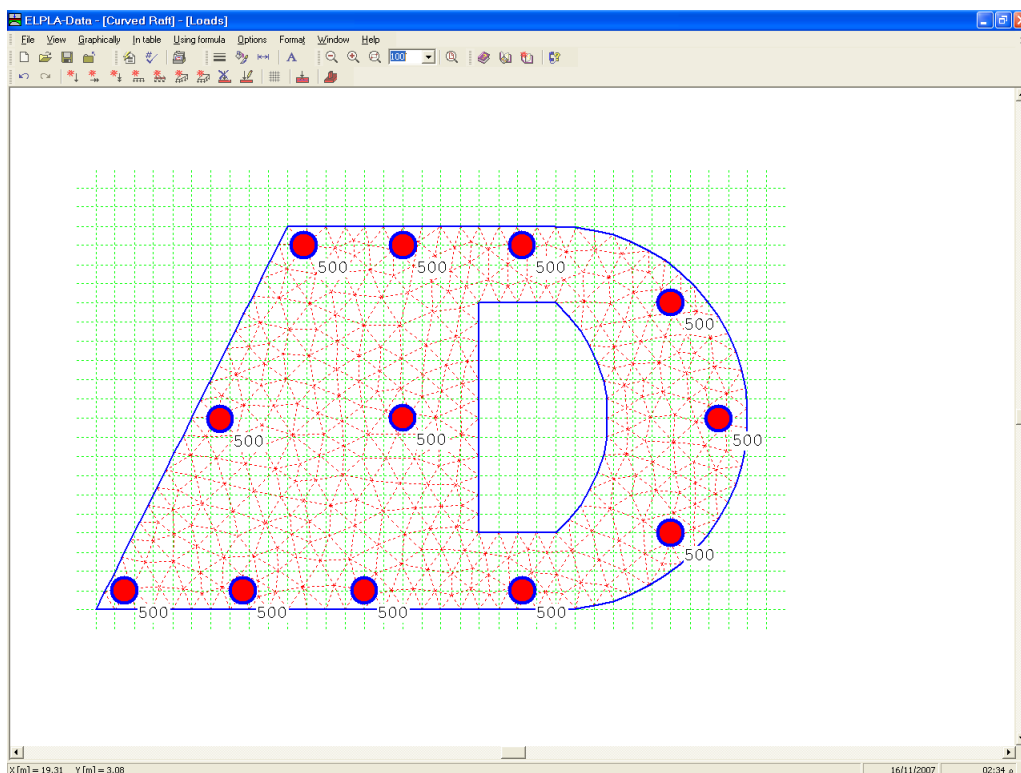

Figure 10-32 Loads on the screen
After you have completed the definition of all load data, the screen should look like the following Figure 10-32.
- Choose "Save loads" command from "File" menu in Figure 10-32 to save the load data
- Choose "Close loads" command from "File" menu in Figure 10-32 to close the "Loads" embedded program and return to the main window of *ELPLA-Data*